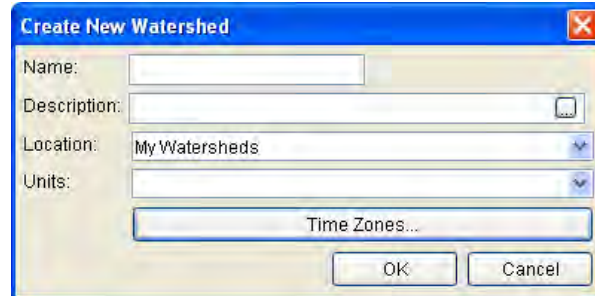

Figure 8 – New Watershed
1. **Create/Open a Watershed.** In the **Watershed Setup Module**, choose **New Watershed** from **File** menu. The new watershed screen will appear, as illustrated in Figure 8. Enter a name for your watershed and a detailed description in the appropriate fields. From the **Location** list, select where you want your watershed stored. If the **Location** list is empty, press **Cancel**, and go back to page 2 to see how to add a Watershed Location. Use the **Units** list to select the unit system that the watershed will use when storing its data. The available unit systems are English and SI (i.e., US Customary and International System of Units). Then select a **Time Zone**. The watershed time zone is always specified as some offset from GMT, which does NOT recognize Daylight Savings Time. When you have completed all fields, press **OK** [Section 3.3].